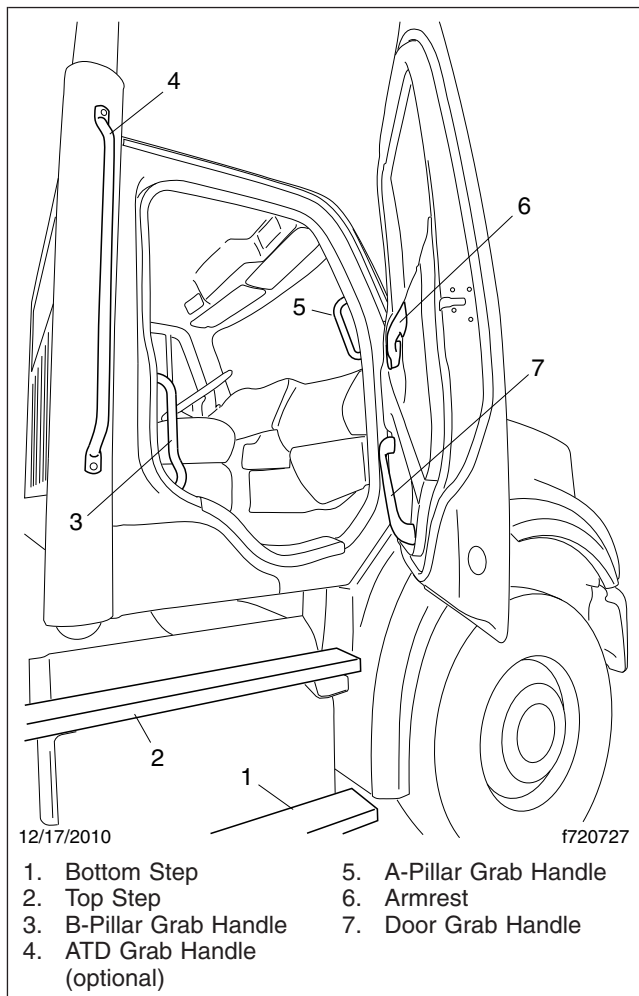

Fig. 2.5, Cab Access System, Passenger's Side and Back of Cab
2. Using your left hand, grasp the B-pillar grab handle. See **Fig. 2.5**.
2. Grasp the A-pillar grab handle with both hands, then place your right foot on the top step while standing up from the seat facing inward. See **Fig. 2.5**.